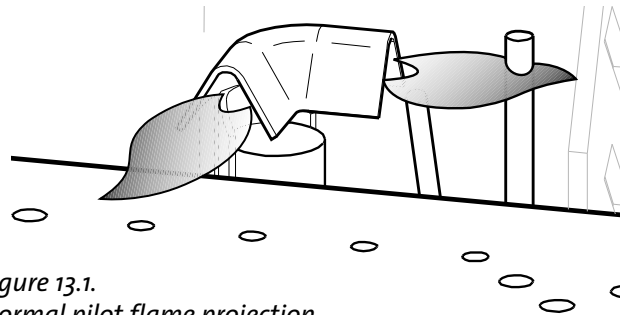

Figure 13.1.
- PILOT FLAME:** You can monitor the pilot flame located behind the burner at the rear of the firebox. The pilot flame should be steady - not lifting or floating. The flame should be blue in color around the pilot hood, with traces of yellow toward the outer edges. Fig. 13.1.